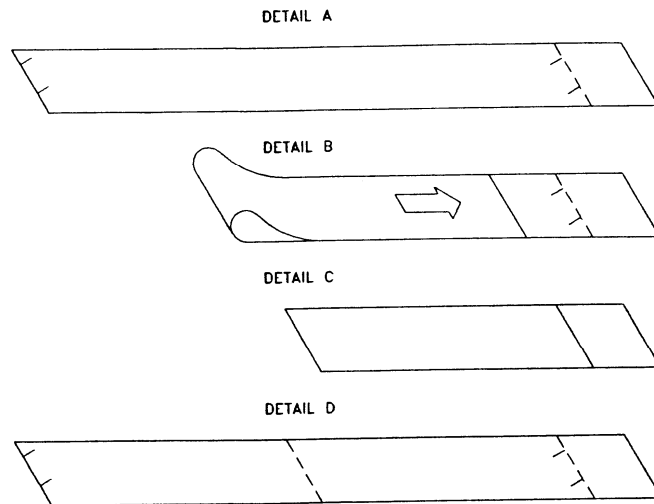

Figure 2.6 Bisecting the pipe circumference
2. Mark the intersection of the two ends of paper to indicate the circumference. Remove the template and spread it out on a flat surface. Fold template in half, bisecting the circumference. See **Figure 2.6**.